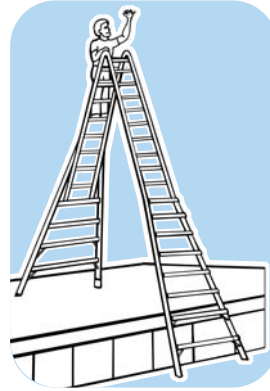

Figure A-2 Staircase
- b. Staircase (See Figure A-2)